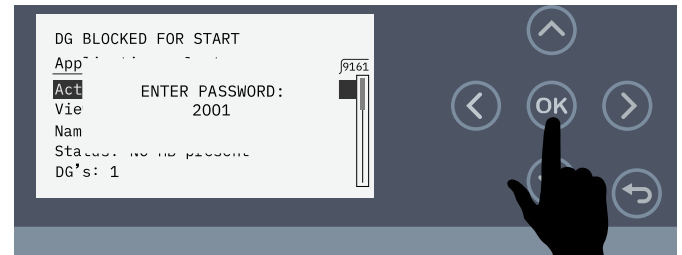

Figure 91. Enter Master Password (2001)
8. The master password is **2001**. Use the arrow buttons to enter the master password (Figure 91), then press the OK button.